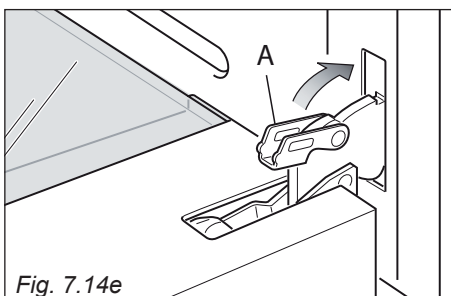

Fig. 7.14e
- Unlock the oven door by opening it completely and closing the lever "A" on the left and right hinges (fig. 7.14e).